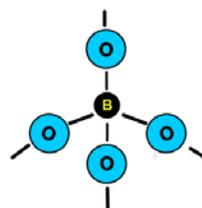

Figure 8
- Tetrahedral borate – one of the atomic arrangements that borate molecules will adhere to. Composed of four oxygens arranged in a tetrahedron with a boron in the middle. (Figure 8)